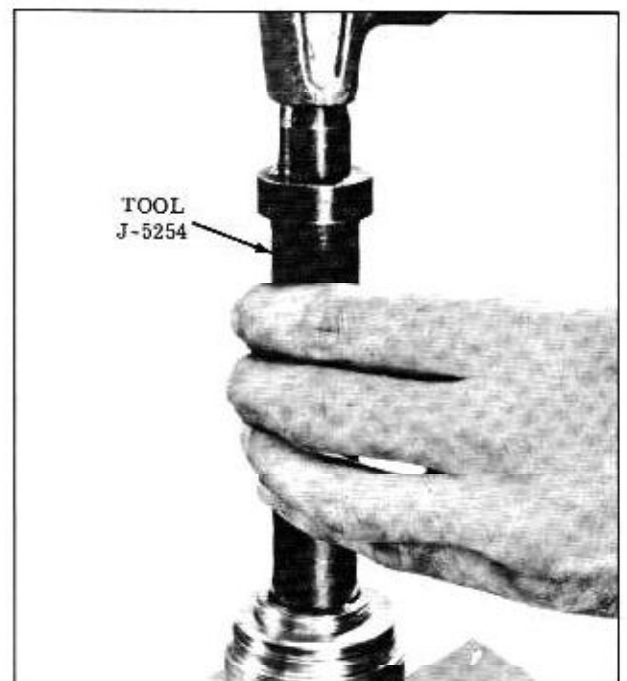

Fig. 4-80 Removing Bearing
3. If the needle bearing is to be replaced, remove the retaining ring using internal pliers, then drive the dust seal, seal and bearing from the adjuster plug with Tool J-5254. (Fig. 4-80)